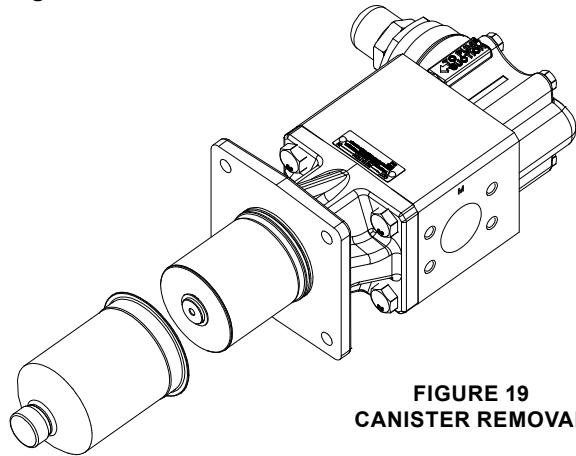

FIGURE 19
2. The canister will contain some liquid, therefore use care while removing from the pump and pull it straight off. See **Figure 19**.